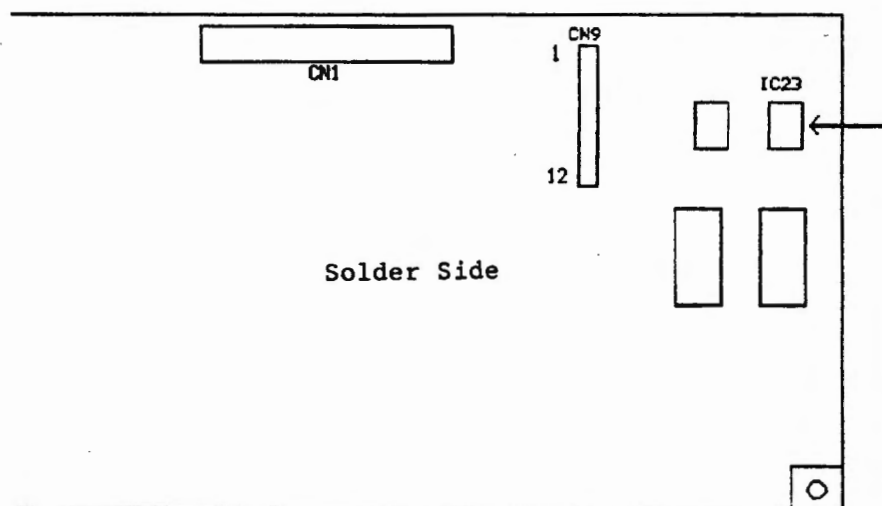
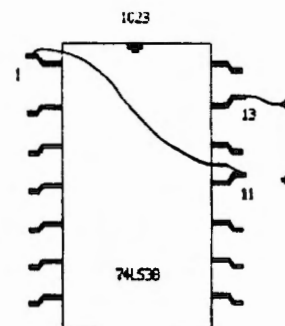

Figure 1
Figure 3
- 2) Locate IC23 (Figure 1) on the solder side of the engine drive PCB, this is a surface mounted 74LS38. See figure 3 for locating the correct pins to be lifted and for proper location of the jumper wires.